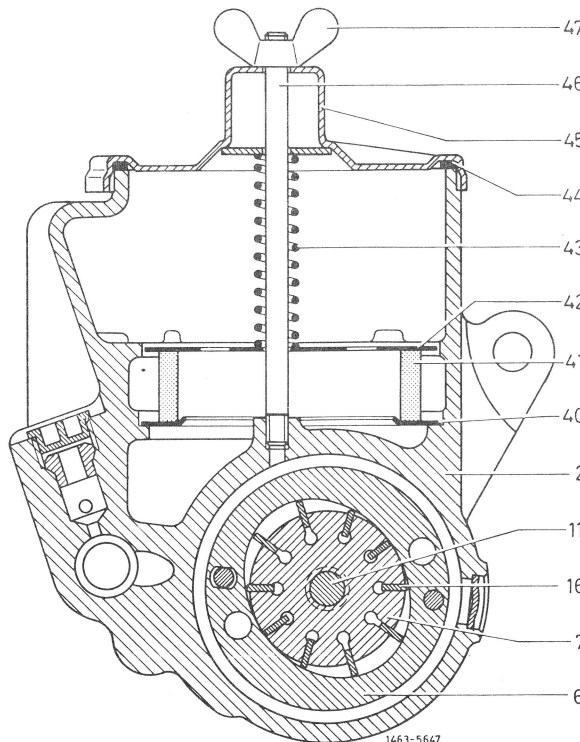

Fig. 9
9 Insert lower damping plate (40), filter ring (41), upper damping plate (42) and pressure spring (43) into housing (Fig. 9 and 10).
10 Place washer (48) on stud (46), attach closing cover (45) and paper gasket (44) with wing nut (47) (Fig. 9 and 10).